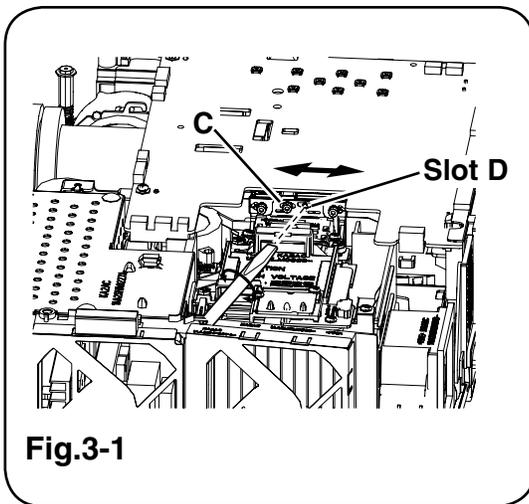

Fig.3-1
- 1 Loosen 1 screw **C** on the condenser lens (OUT) base and insert a slot screwdriver into the slots **D** and turn it to show the color shading on the both left and right of the screen as shown in **Fig.3-1**.